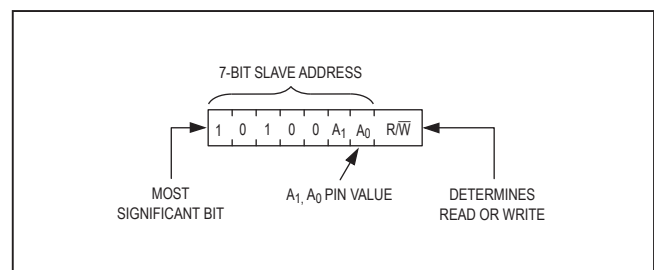

Figure 10. DS3882's Slave Address Byte
**Slave Address Byte:** Each slave on the I2C bus responds to a slave addressing byte sent immediately following a START condition. The slave address byte (Figure 10) contains the slave address in the most significant 7 bits and the R/W bit in the least significant bit. The DS3882's slave address is 10100A1A0 (binary), where A0 and A1 are the values of the address pins (A0 and A1). The address pin allows the device to respond to one of four possible slave addresses. By writing the correct slave address with R/W = 0, the master indicates it will write data to the slave. If R/W = 1, the master will read data from the slave. If an incorrect slave address is written, the DS3882 will assume the master is communicating with another I2C device and ignore the communications until the next START condition is sent.